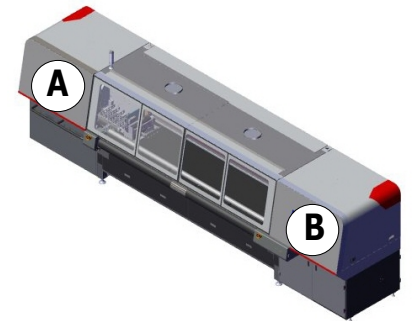

Figure 5-6 Printer Front View
2. Open the carriage (A) and operator-end (B) compartment doors. See Figure 5-6.